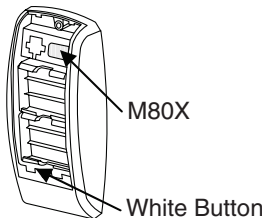

Figure 2
- If your label has an M801, M803, M804, or M806, reference programming in Section 5. (Figure 2)
- If your label has a M802 or M805, Accessware™ application Software must be used for programming. See Section 7. (Figure 2)